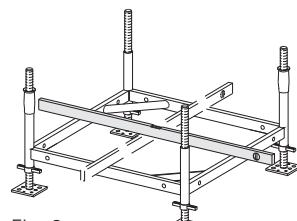

Fig. 3
3. Check the evenness by means of a spirit level and adjust height if necessary. (Fig. 3)
4. Secure Base Spindles using Safety Straps (6).